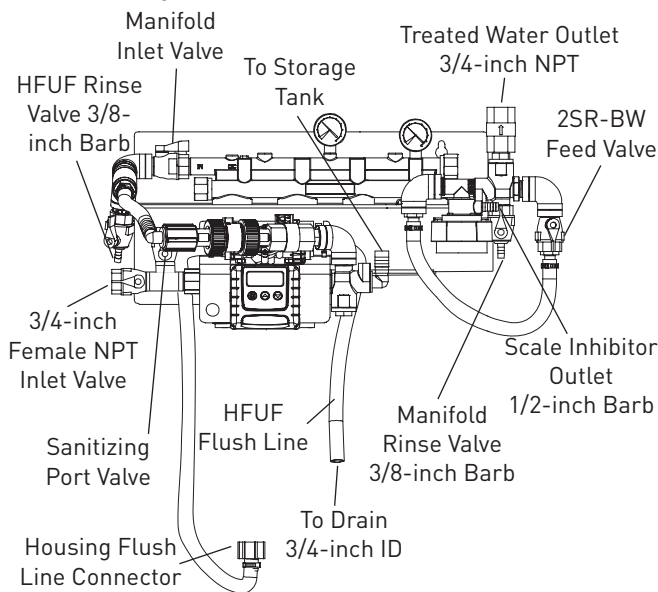

Figure 1
2. Mount the manifold using four (4) screws in the bracket mounting holes. The slots will accept a 3/8-inch diameter lag bolt or screw.
3. Do not connect the treated water outlet ports to the equipment being served until after the system has been flushed (Figure 1).
4. Attach one of the supplied 3/8-inch I.D. tubing to the fitting on the HFUF Flush Valve (Figure 1). Use one of the spring clamps to secure. Run the other end of the tubing to a drain.
5. Attach the second piece of 3/8-inch I.D. tubing to the fitting on the Manifold Rinse Valve (Figure 1). Use one of the spring clamps to secure. Run the other end to a drain.
7. Turn off the flow valves shown in Figure 1:
12. A short piece of new 3/4-inch tubing (15 in./38.1 cm long) is provided with the system. Attach the tubing to the barb connection on the exit (right) side of the head for the Everpure® Endurance SC HFUF (Figure 1). Use one of the supplied Oetiker clamps to secure.
16. There are four (4) union connections above the controller that may loosen during shipping. Two (2) for the solenoid valve and two (2) for the turbine. Tighten each one by hand to secure the connection.